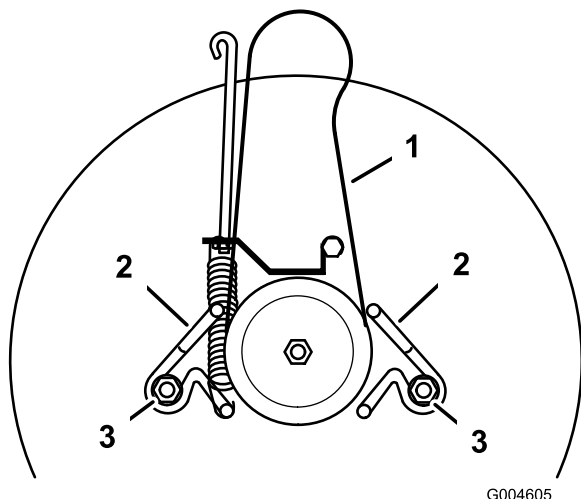

Figure 34
2. Loosen the belt guide mounting bolts and move the belt guides away from the pulley (Figure 34).
1. Install the new blade drive belt around the blade pulley and inside both of the belt guides (Figure 34).
2. Adjust the belt guides so they are 1/8 inch (3 mm) away from the pulley. Tighten the mounting bolts (Figure 34).